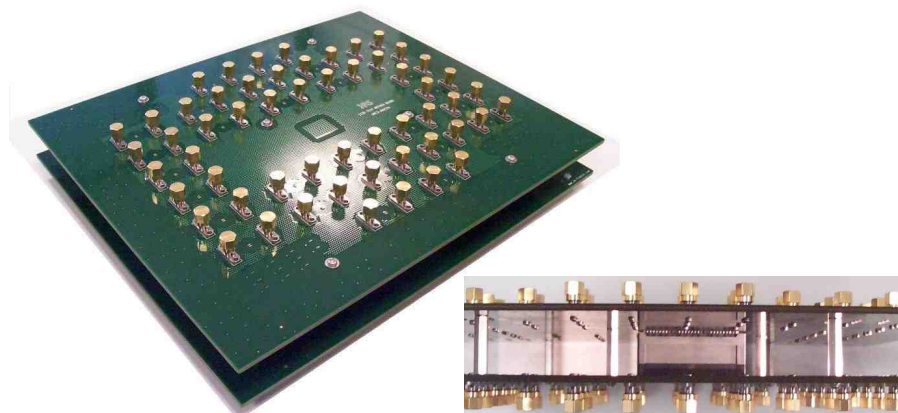

Figure 4-2 Demo board
For high-speed data transmission, the transmitters (TX) and receivers (RX) are usually grouped separately, in order to minimize the effect of near-end crosstalk (NEXT). Actual measurements were taken on 120mil test boards (Figure 4-2) with IT3-25mm connector, 2 via transitions through mid routing layers, and 6" + 6" FR408 PCB traces.